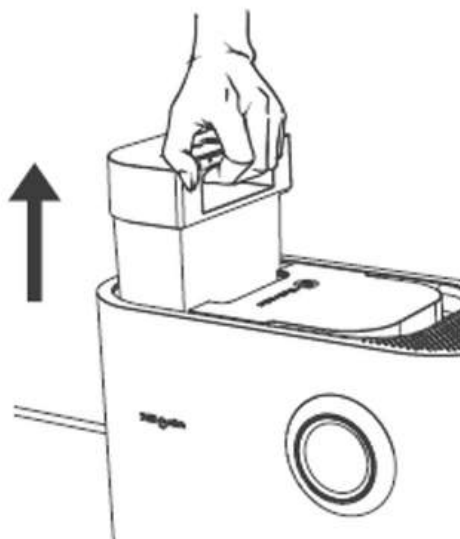

Fig. 15
2. Remove the clean water tank from the appliance (see Fig.15).